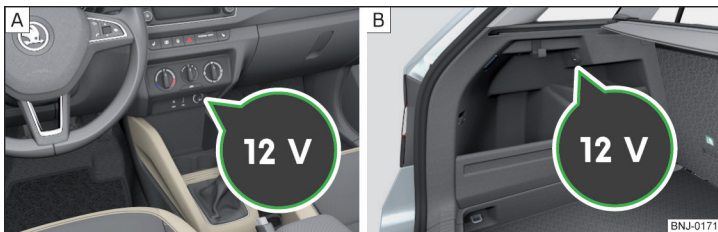

Fig. 95 Cover for the 12-volt socket: in the central part of the dashboard/in the luggage compartment
- To use, remove the cover from the socket » Fig. 95 - [A] or open the cover of the socket » Fig. 95 - [B].